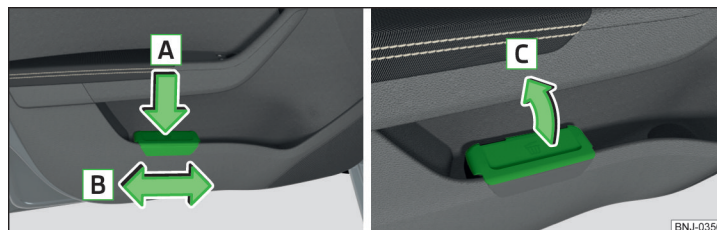

Fig. 84 Waste container: inserting and moving/opening
- › Push the waste container to the back in the direction of the arrow » Fig. 84.
- › Remove the waste container in the opposite direction to the arrow » Fig. 84.
- › Lift the lid in the direction of arrow » Fig. 84.